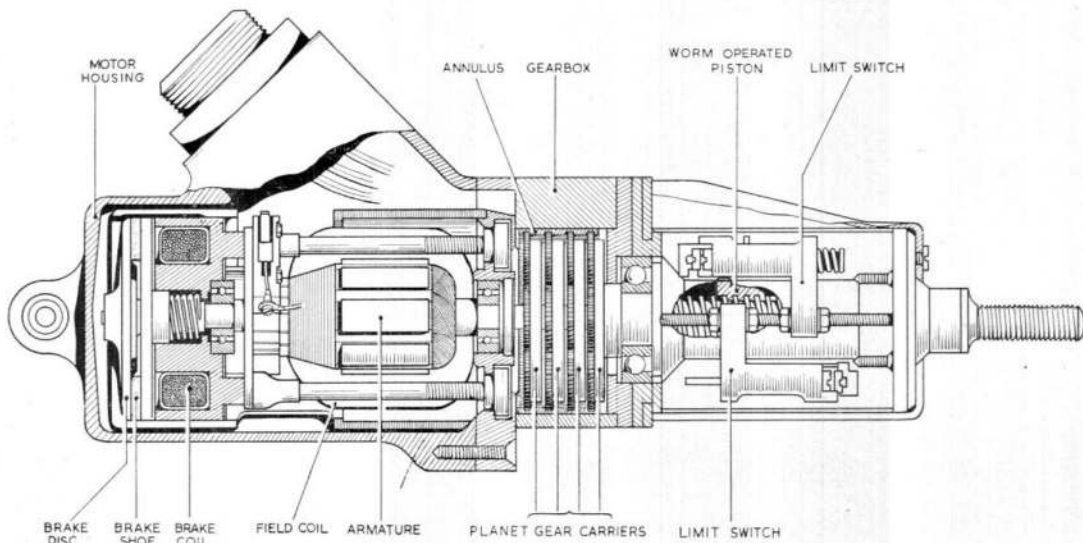

Fig. 2. Sectional view of actuator
2. The actuator consists basically of a fractional horse-power motor, epicyclic gearing and worm-operated piston (*fig. 2*). It is con-